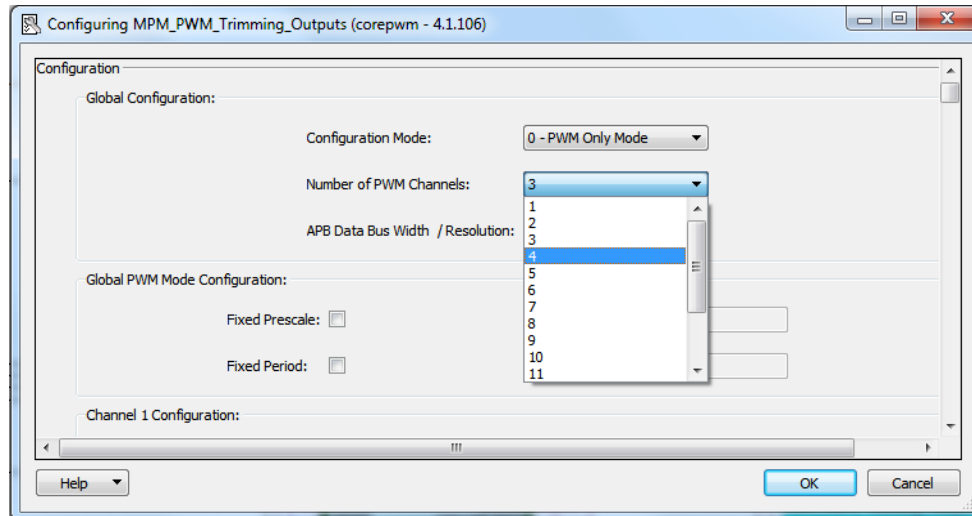

Figure 34 • Configuring CorePWM
1. Configure the connections of CorePWM (MPM_PWM_Trimming_Outputs). Double click CorePWM block of MPM_top and increment the Number of PWM Channels by 1 as shown in Figure 34.